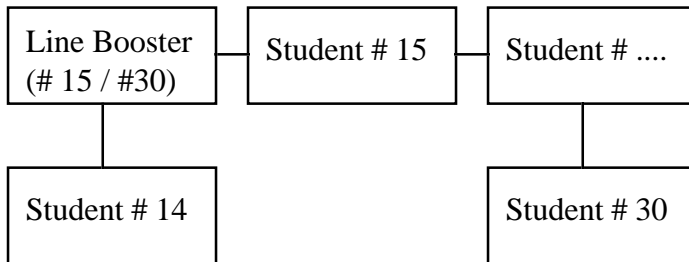

Figure 19 Typical Line Booster numbering
1. Determine exactly where in the system each Line Booster will be located (see Figure 19). This needs to be done in order to determine *the number of the first SIU in the group*, and *the number of the last SIU in the group* to have it’s signal boosted by the Line Booster Unit.